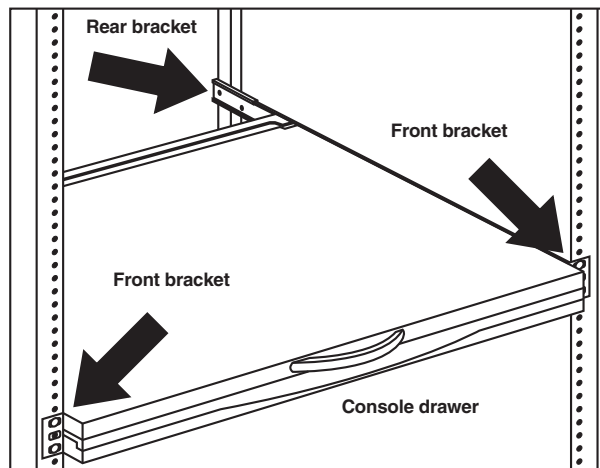

Figure 3-4. Securing the console drawer to the cabinet's front brackets.
- Use four 10-32 or 12-24 screws (not included) to fasten the console drawer onto the front brackets. (See Figure 3-4.) The metal brackets shown in the figure support the console's rear side.